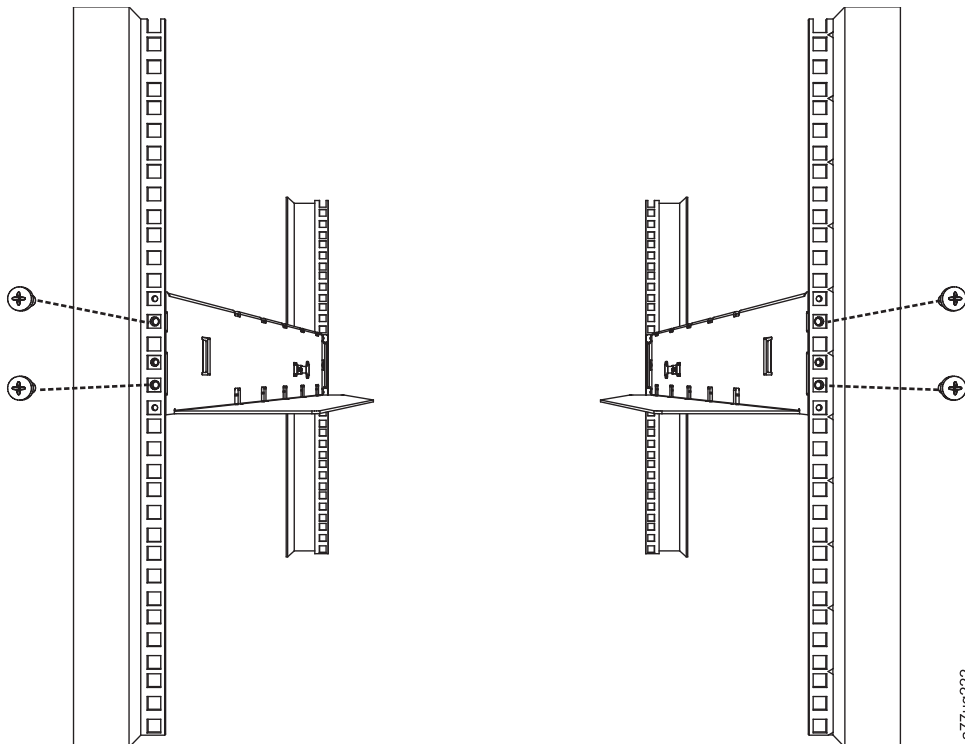

Figure 160. Front view of rack showing screw placement
2. With assistance, slide the replacement library enclosure onto the metal rails that are already in position in the rack (see Figure 160).